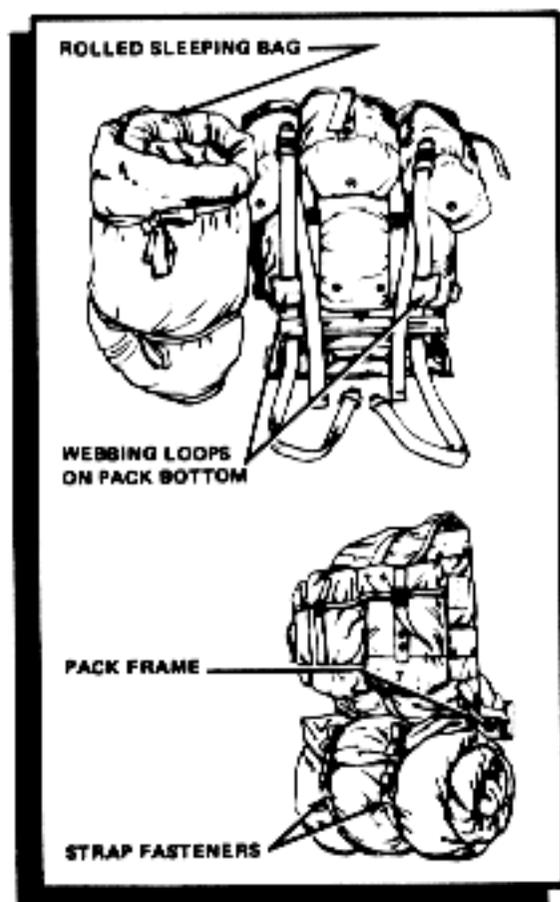

Figure 4-30. Attaching sleeping bag when using pack frame.
- When using the pack frame with the pack (figure 4-30), pass the cargo tiedown straps under and around the horizontal bar of the frame after completing step one. Continue as described in steps two and three.